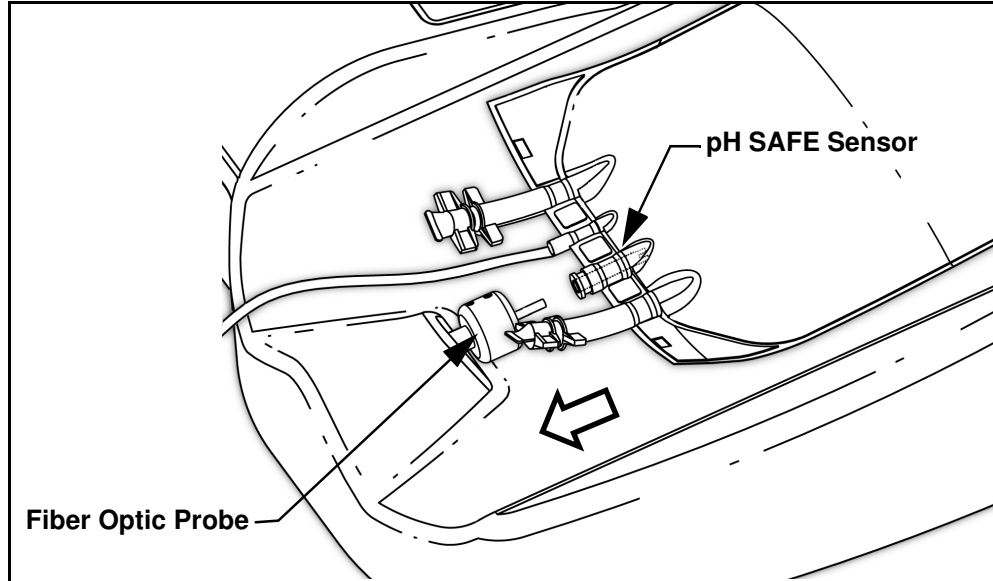

Figure 6-2 Insert Fiber Optic Probe into pH SAFE Sensor
- Refer to Figure 6-2. Place the platelet storage bag onto the instrument measurement platform and insert the Fiber Optic Probe of the instrument into the opening at the top of the pH SAFE Sensor of the bag